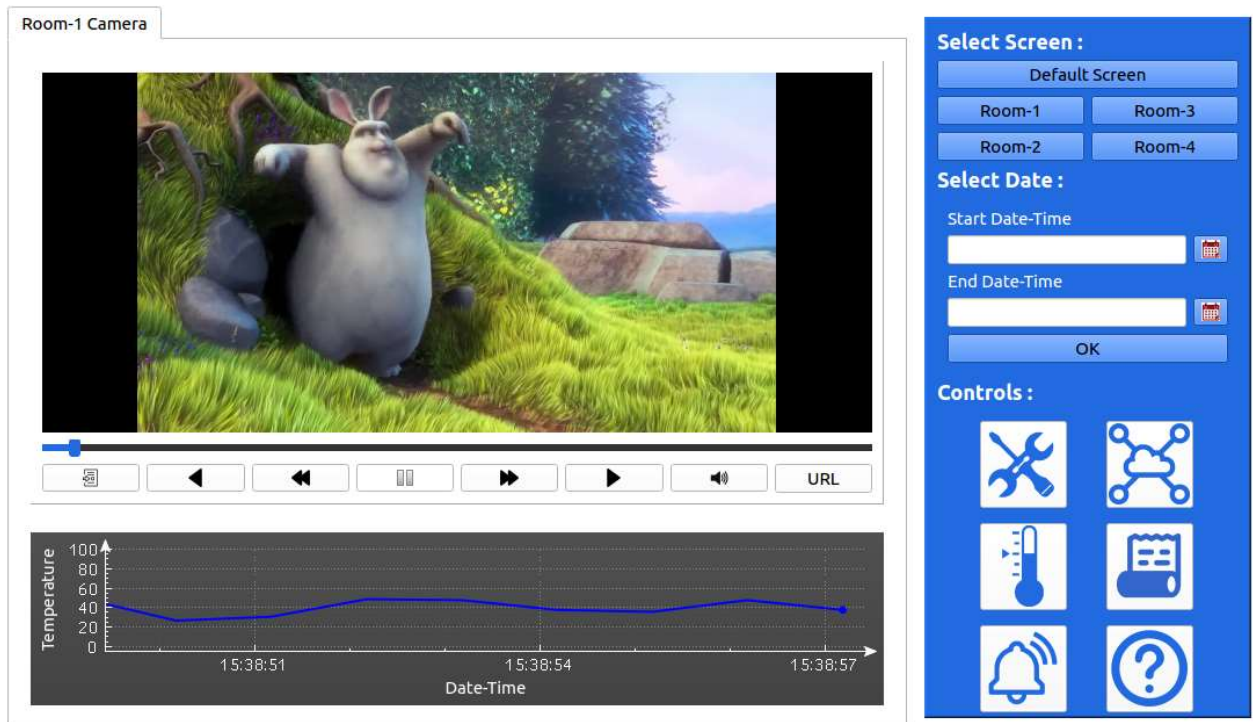

Figure 22 : Room-1 Screen
**Select Date** (on right top) **widget** is useful for displaying all room's temperature on graph based on between start date-time and end date time. User can select data and time by Clicking **Calendar** button just right after **start data-time** and **end date-time** text area. (Figure 22)